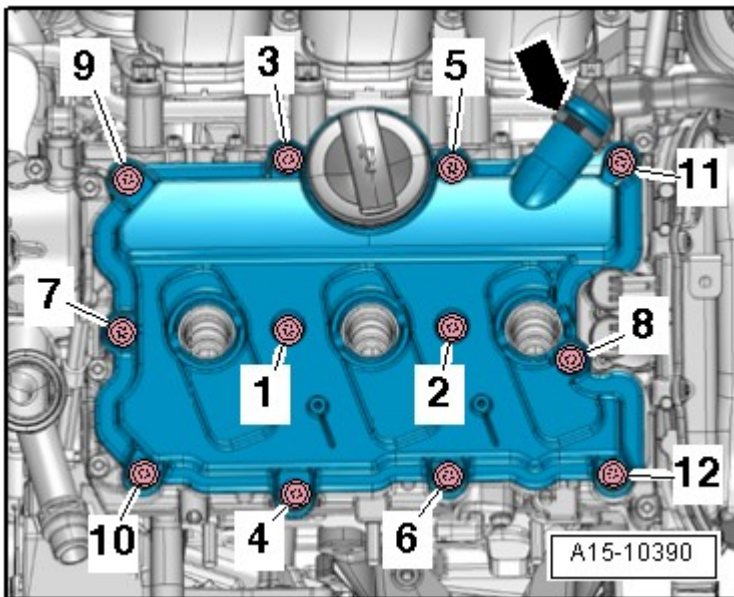
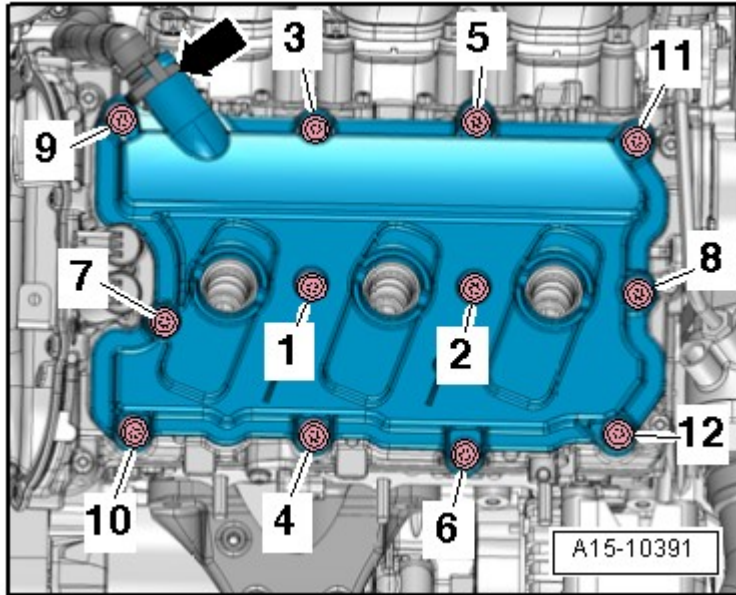

Fig. 5: Identifying Left Cylinder Head Cover Bolt, Tightening Sequence
Fig. 6: Identifying Right Cylinder Head Cover Bolt, Tightening Sequence
- Tightening specifications, refer to **Fig. 5** and **Fig. 6**.